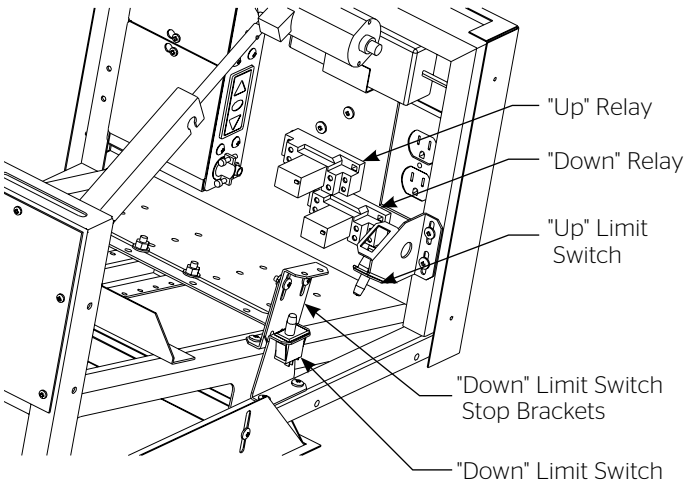

Figure 9
7. The Da-Lift comes with factory installed preset limit switches. See Figure 9. If obstructions above the ceiling will prohibit easy access to the switches, the switches may be moved to the opposite side of the Da-Lift.